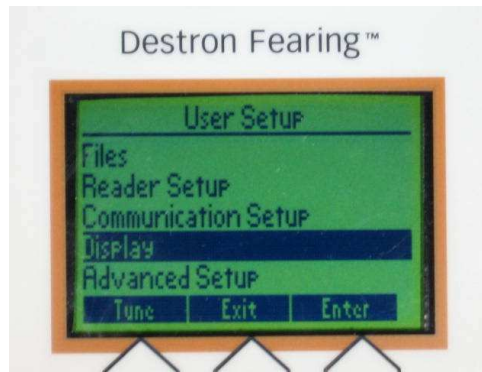

FIG. 95: User Set Up Screen
1. Press the UP/DOWN Arrow Keys and highlight the "Display" line. See Fig. 95.